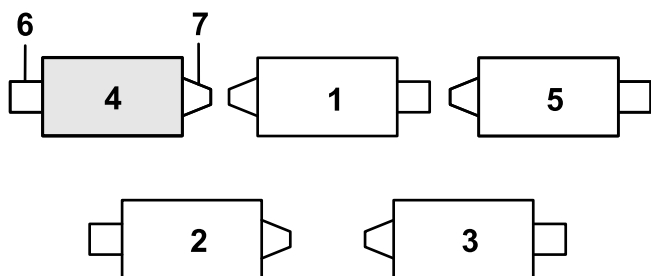

**Figure 7**
1. If the hairpin is installed in the rear hole of the compensation-spring rod—remove the hairpin and insert it in the hole next to the bracket (Figure 7).